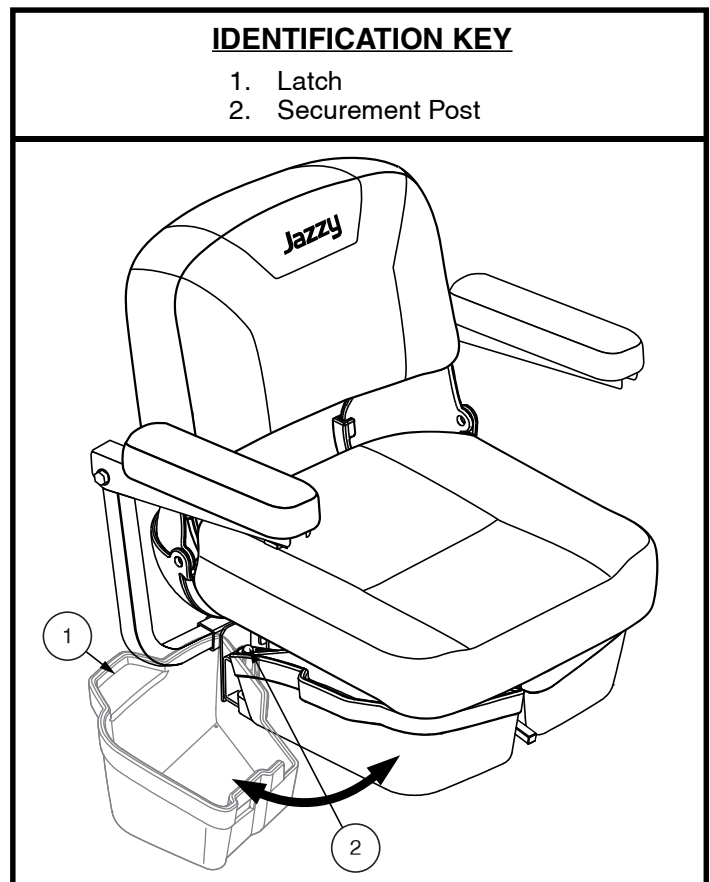

Figure 28. Under-seat Storage
1. Lift up slightly on the latch on the side of the under-seat storage bin (see figure 28) and swing the under-seat storage bin out and away from the Travel Scooter.
1. Lift up slightly on the latch on the side of the under-seat storage bin (see figure 28) and swing the under-seat storage bin out and away from the travel scooter until it is fully open.
2. If equipped, remove under-seat storage. See **Figure 28**.
7. If equipped, install under-seat storage. **See figure 28.**